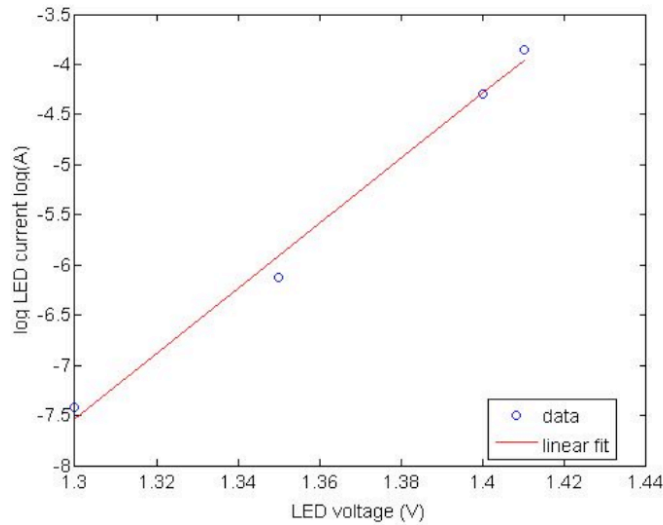

Fig. 1. Linear Regression fit of $\ln(i)$ vs V for LED.
The Matlab™ script "polyfit_diode.m" in Appendix A finds the values of a_0 and a_1 that give the best fit, (in the least-squares sense), of the data in Table I to the line described by (4). Tables III and IV show the numerical results, and Fig. 1 shows a plot of the results. The differences between measured and modeled values are on the order of 10 percent.